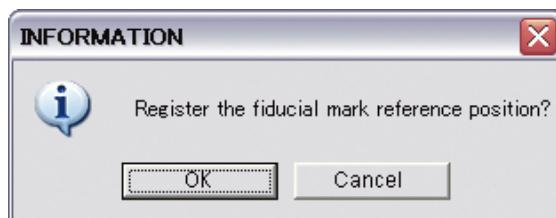

Figure 1-14 Fiducial Mark 6
Step29: The dialog shown in Figure 1-14 appears. If CAD data is used, press **OK**. If CAD data is not used, press **Cancel**.